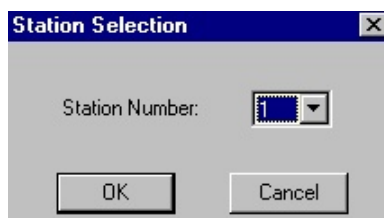

Figure 4.6 Station Selection dialog box
- ⇒ The Station Selection dialog box opens if more than one fluidics station is installed on the workstation (Figure 4.6).